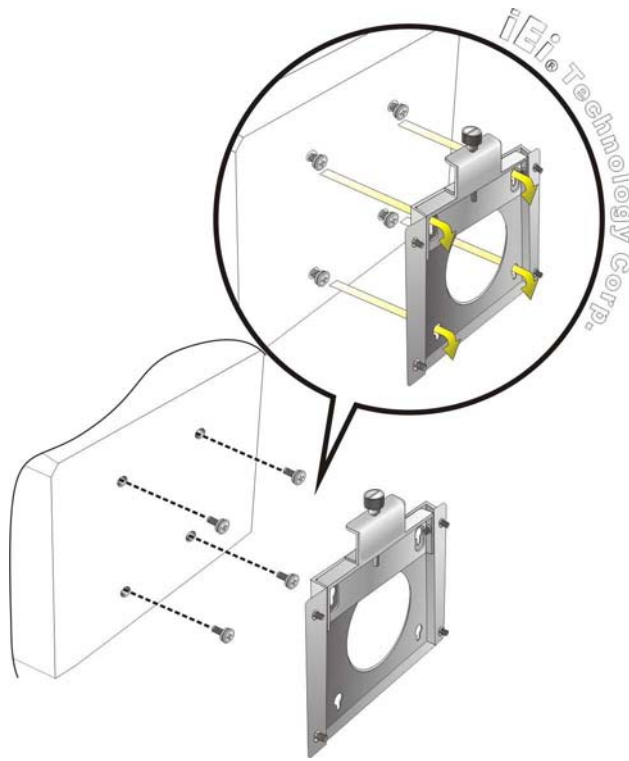

Figure 3-8: Chassis Support Screws
Step 6: Insert the four monitor mounting screws provided in the wall mounting kit into the four screw holes on the rear panel of the flat panel PC and tighten until the screw shank is secured against the rear panel (Figure 3-8).
Step 8: Carefully insert the screws through the holes and gently pull the monitor downwards until the monitor rests securely in the slotted holes (Figure 3-8). Ensure that all four of the mounting screws fit snugly into their respective slotted holes.